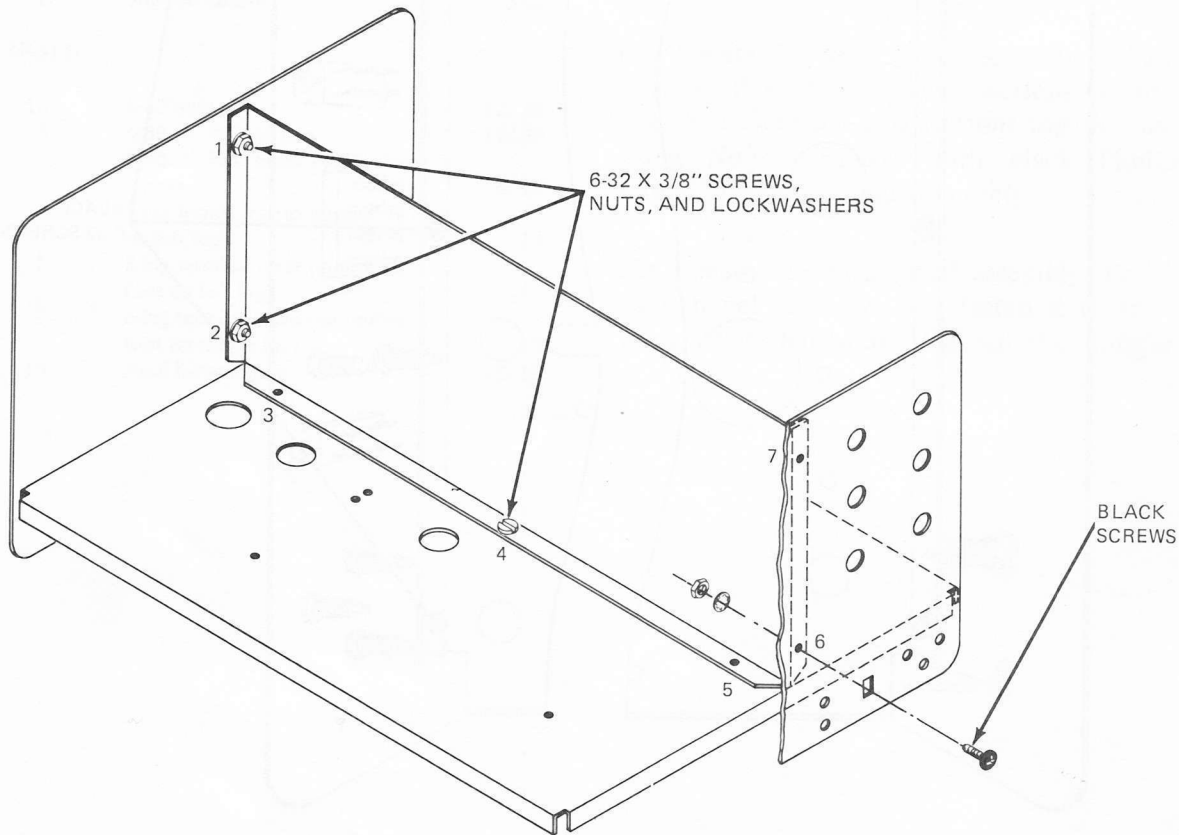

Figure 19. Mounting the support chassis.
(5) Refer to Fig.19, Detail A, and secure the chassis sections together at point 5. Use No.6 hardware and mount a 5-lug terminal strip (ST42) in the position shown ()
(6) Refer to Fig.19, Detail B, and secure the support chassis to the front panel at positions 6 and 7 using No.6 hardware with black screws. Install a 4-lug terminal strip (ST28) at hole 7 in the position shown ()